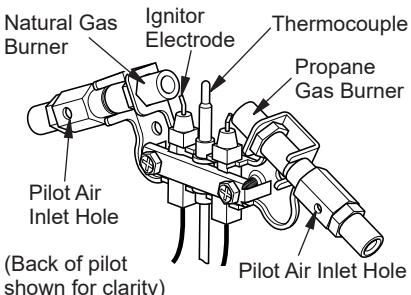

Figure 30 - Pilot Inlet Air Hole
2. Inspect burner, pilot and primary air inlet holes on injector for dust and dirt (see Figure 30).
A yellow tip on the pilot flame indicates dust and dirt in the pilot assembly. There is a small pilot air inlet hole about 2" from where the pilot flame comes out of the pilot assembly (see Figure 30). With the unit off, lightly blow air through the air inlet hole. You may blow through a drinking straw if compressed air is not available.